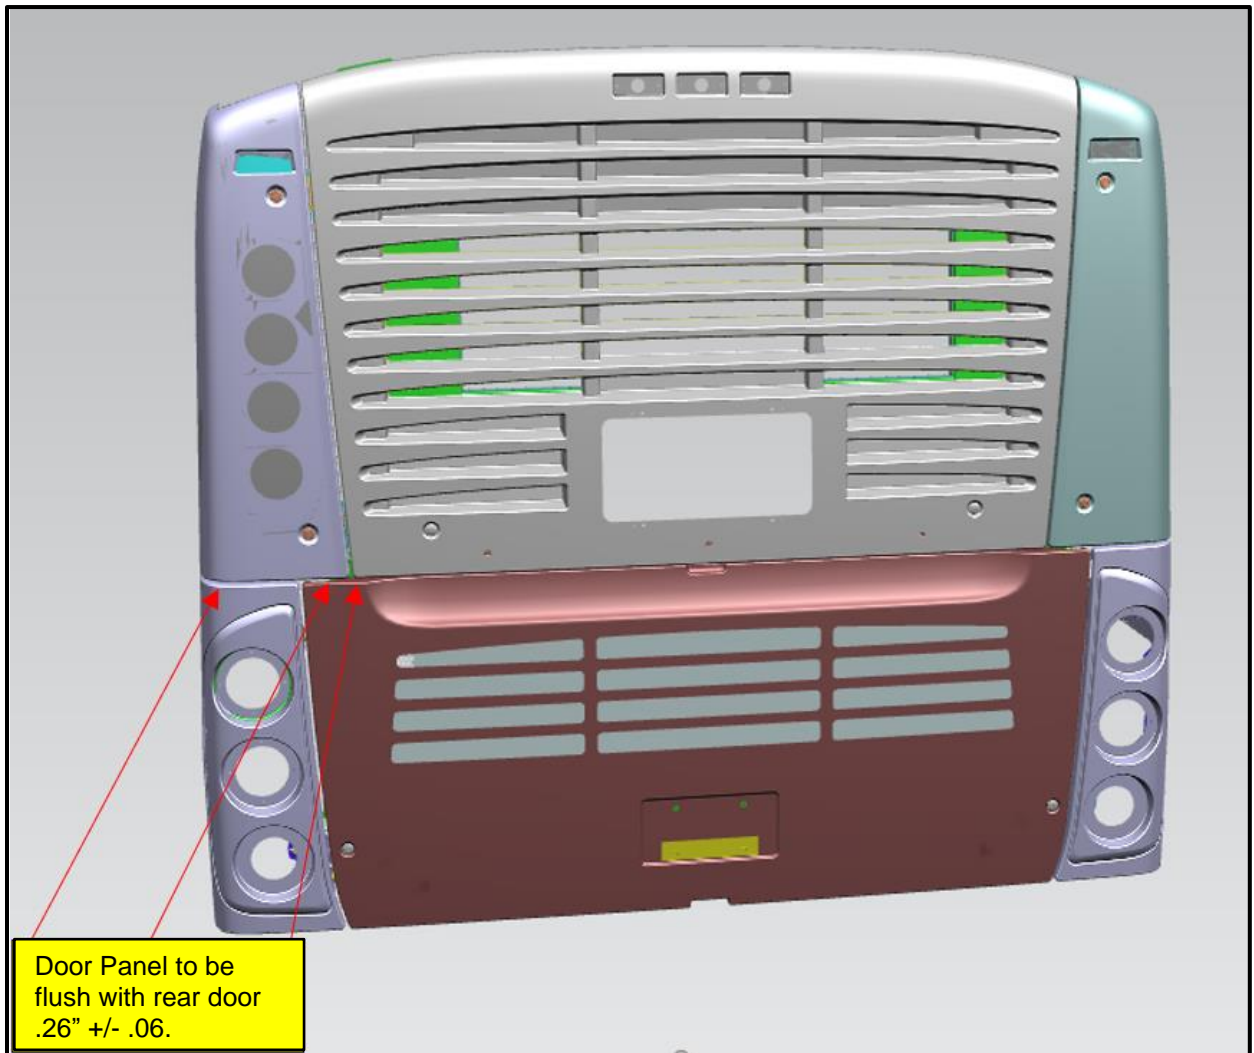

Figure 7: Adjustment of Corner Pillar Access Door Location Reference.
👉 **NOTE: Do not tighten hardware completely until door has been aligned correctly. See figure 7.**
- 13) Align Bottom of door panel to be flush with rear door $.26'' \pm .06$. See Figure 7